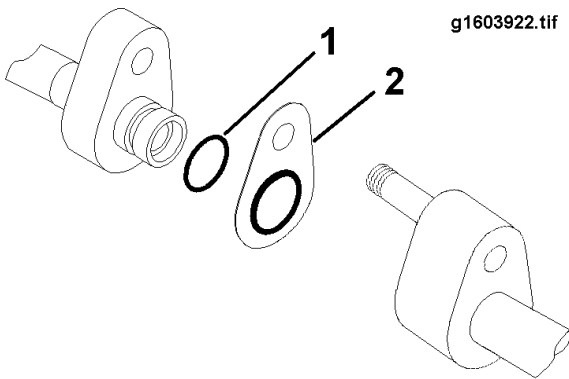

Figure 61 A/C Fitting C-Plate and O-Ring
7. Anytime an A/C fitting is disconnected, the O-ring and C-plate must be replaced (Figure 61). The new O-ring must be lubricated with **MINERAL-BASED** oil (International P/N ZGGR6912). The C-plate does not require lubrication. Never use grease, penetrating oil, motor oil, Ester or PAG oil, etc. to lubricate O-rings and fittings.